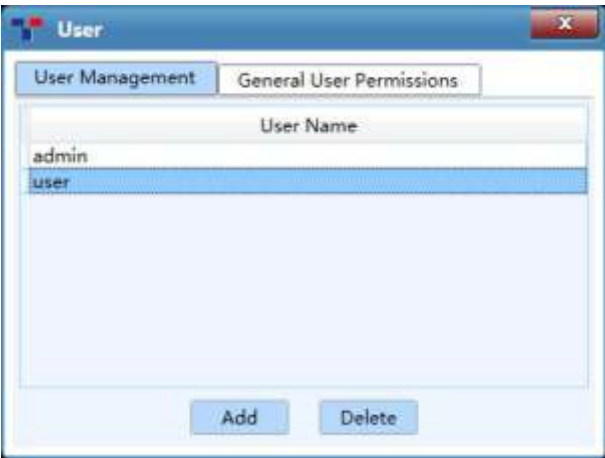

Figure D-3.7a User interface - User Management tab
2. **User:** click **User** option in the **Option** submenu and the application software will automatically pop up the user interface, as shown in figure D-3.7a.